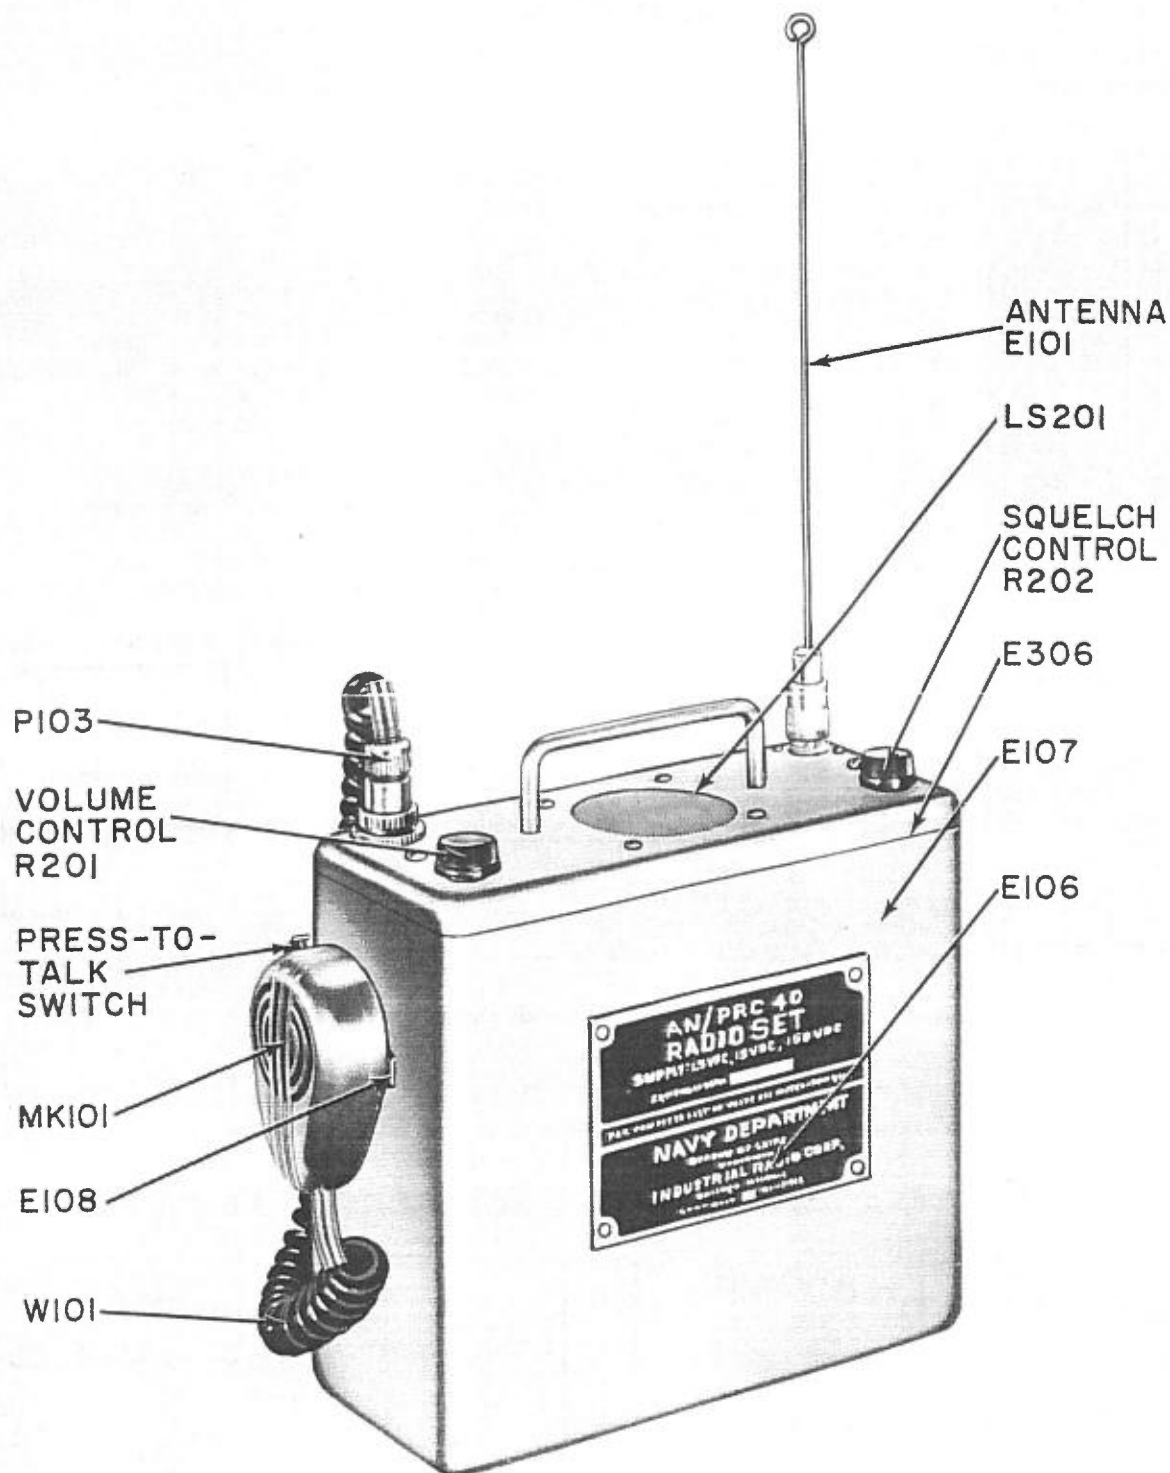

Figure 1-1. Radio Set AN/PRC-40, Overall View
This publication contains maintenance instructions and descriptive data for Radio Set AN/PRC-40. (See figure 1-1.) Radio Set AN/PRC-40 is manufactured by Industrial Radio Corporation, Chicago, Illinois. The complete portable Radio Set AN/PRC-40 illustrated in figure 1-1 is small in size, light in weight, and easily carried by the handle provided on top of the case.
- a. Turn set "off" by rotating VOLUME control R201 (figure 1-1) to its maximum counterclockwise position.
- c. Rotate the SQUELCH control R202 (figure 1-1) to its maximum counterclockwise position.
- e. Advance the VOLUME control until a loud hissing noise is heard from the loudspeaker LS201 (figure 1-1).
a. TO TRANSMIT MESSAGE.-Hold the microphone MK101 (figure 1-1) with the hand in such a manner that the "press-to-talk" switch can be easily released as well as firmly depressed. Hold the microphone facing the mouth, a few inches from the lips. Depress the "press-to-talk" switch and speak into the microphone using a natural moderate speaking voice. Do not shout. Release the "press-to-talk" switch as soon as the message is completed.